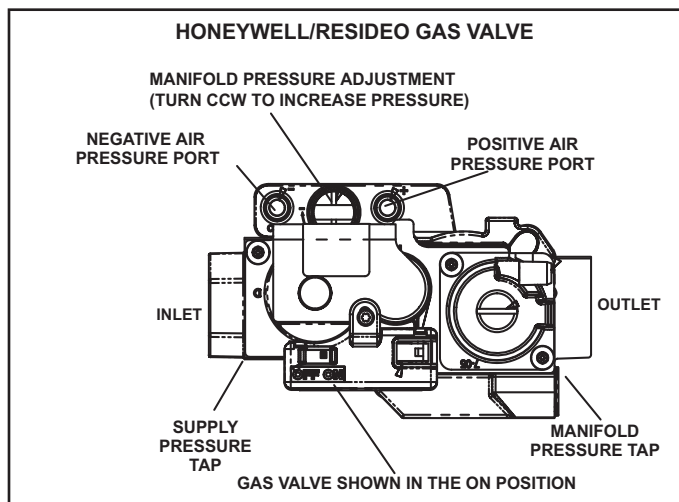

FIGURE 17
- 6 - Turn switch on gas valve to OFF. Do not force. See FIGURE 17
- 8 - Move switch on gas valve to ON. Do not force. See FIGURE 17.
A port on the inlet side of the gas valve provides access to the supply pressure tap. See FIGURE 17. Loosen the screw and connect a manometer to measure supply pressure.
- 2 - Remove the threaded plug from the outlet side of the gas valve and install a field-provided barbed fitting. Connect measuring device positive "+" to barbed fitting to measure manifold pressure. See FIGURE 17 for manifold location.